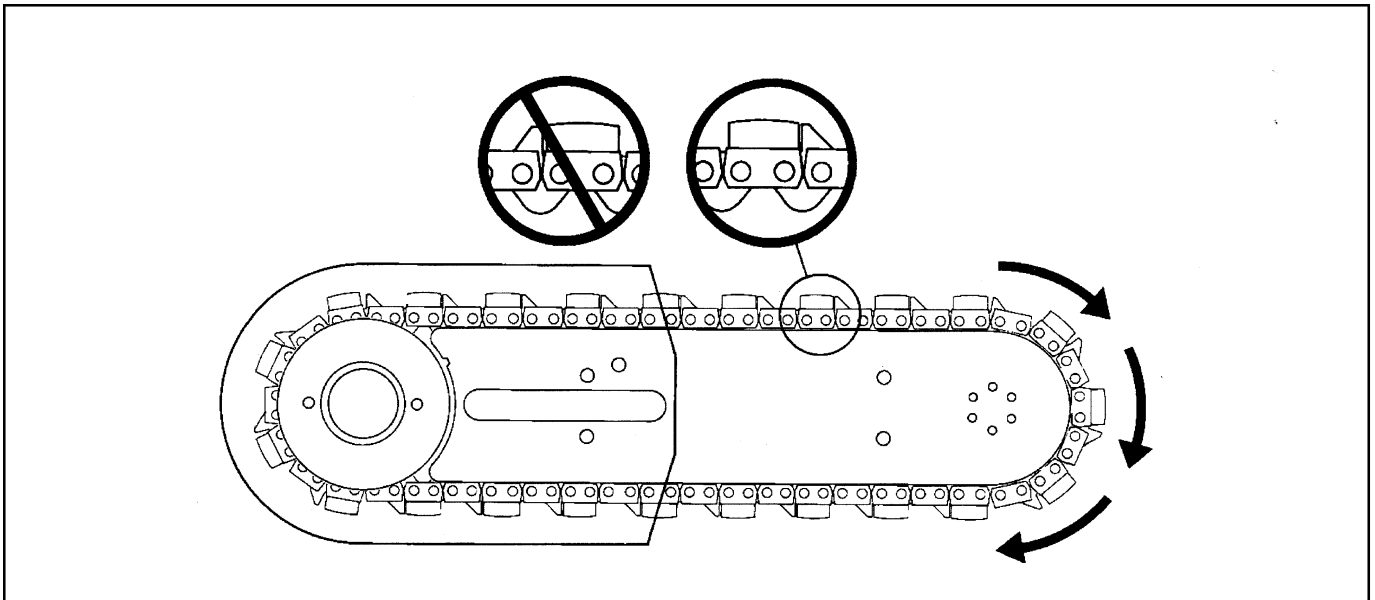

Figure 1 (Bar and Chain Drawing)
- Never run the chain backwards. Bumper should always lead the segment into the cut. (Figure 1)
Check for proper chain orientation. The bumper drive link should lead the segment into the cut. (See Figure 1)
- Ensure proper chain installation. (See Figure 1)